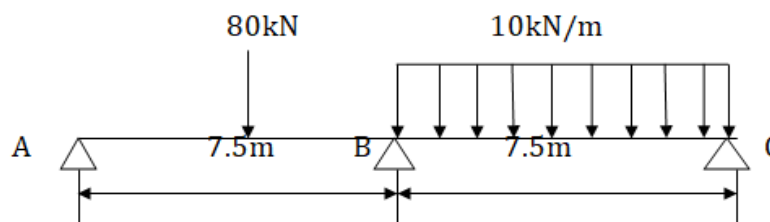

Fig. 7
7. A continuous beam ABC shown in Fig. 7 is 15m long carried on supports at its end and is propped at the same level of points 7.5m from the left end A. It carries a concentrated load of 80kN at centre of the span and uniformly distributed load of 10kN/m run over the span BC. Using three moment theorem, calculate bending moments and support reactions at three supports. Assume EI is constant.